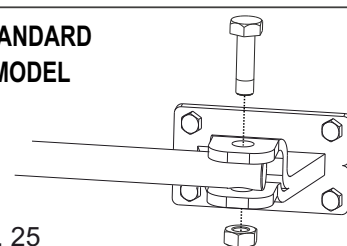
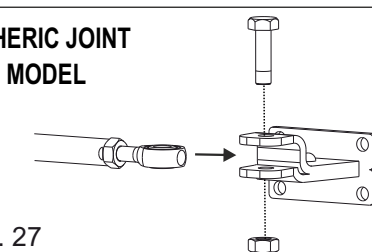

Fig. 25
Fig. 27
- Secure the shaft to the front bracket by tightening the screw - Fig. 25 or Fig. 27